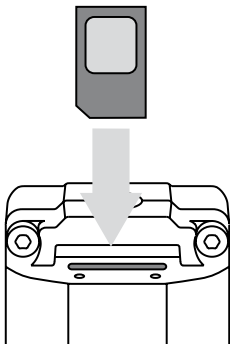

Fig. 5: Slide in the SIM card
- Slide the SIM card into the slot, as shown in Fig. 5.